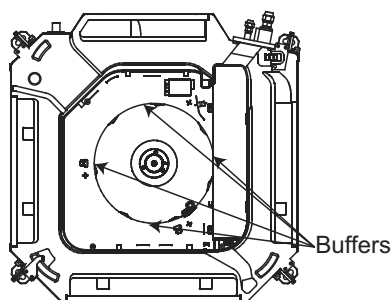

Figure 3.9
- Before you install the indoor unit, make sure that you remove the buffers used for transportation between the fan and the pipe socket (see Figure 3.9). If you run the unit without removing the buffers, you may damage the fan motor.